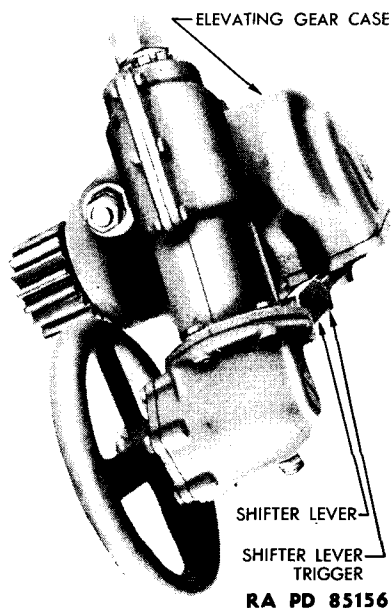

Figure 122 – Elevating Mechanism Locking Device in Disengaged Position
(1) Grasp the elevating mechanism locking lever, located beneath the elevating gear housing, and compress the locking lever trigger.
(2) Swing the locking lever to the right (toward the turret body) and release the locking lever trigger (fig. 122).